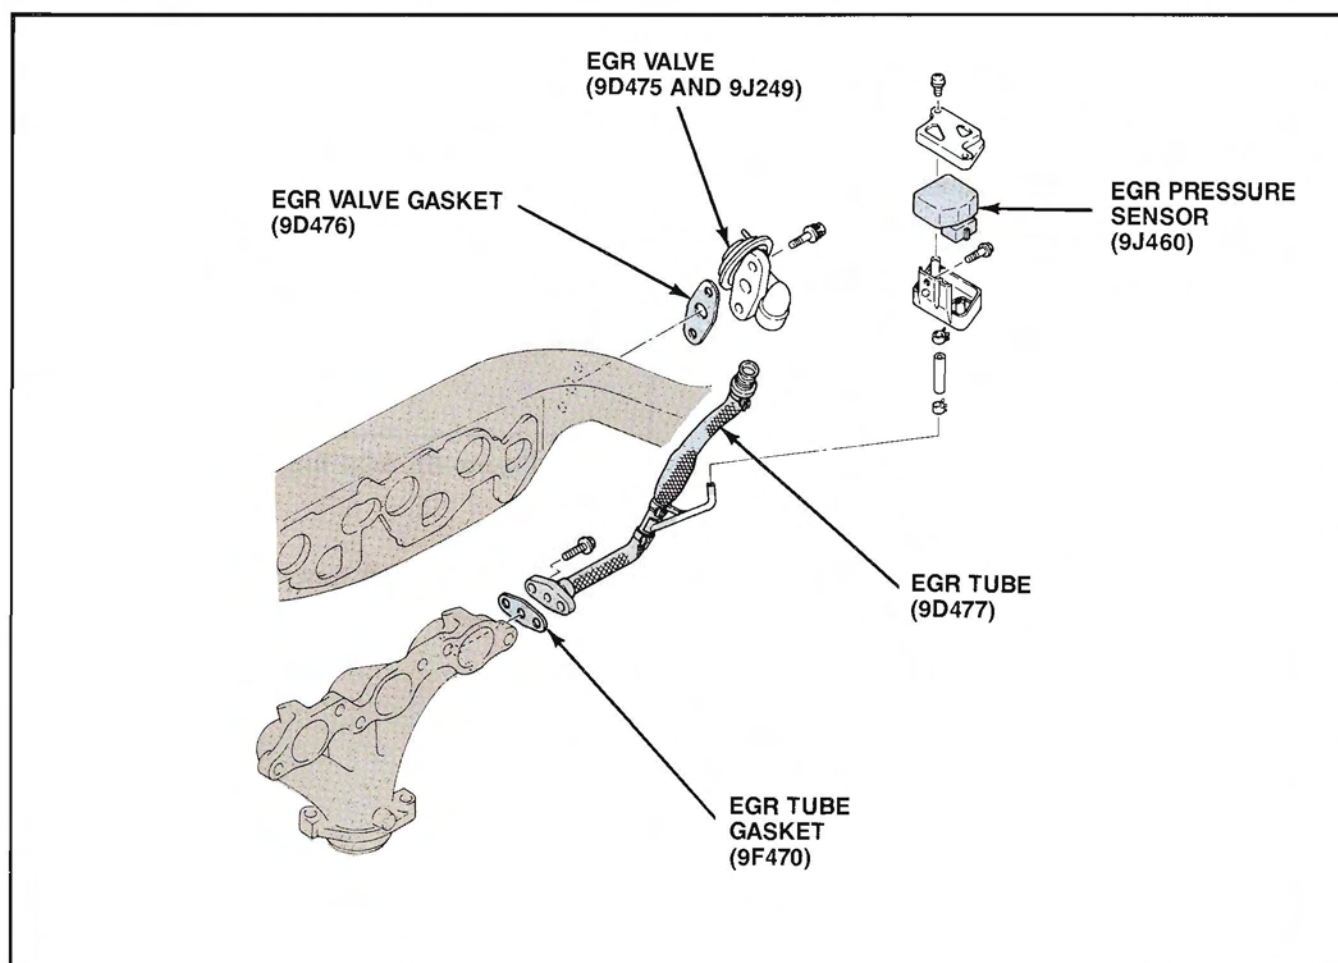

Figure 159. EGR System Components
1. Install the gasket and EGR tube assembly to the left exhaust manifold and tighten the two retaining bolts to 16-23 N·m (12-17 lb-ft) (Fig. 159).